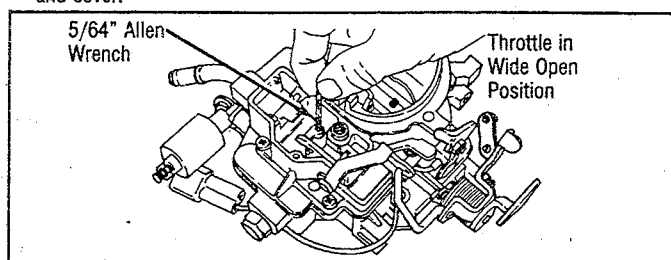

Fig. 3 Mechanical Power Valve Adjustment
2. Place throttle lever in wide open position. Insert a 5/64" Allen wrench in mechanical power valve adjustment screw. See Fig. 3.